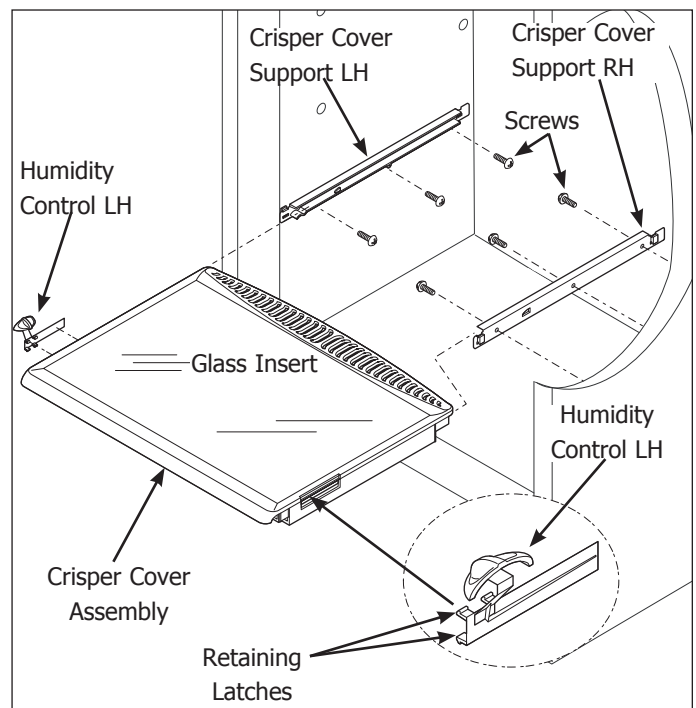

Figure 5-13. Crisper Cover Assembly Removal
2. Reach under the crisper cover and lift up on the crisper cover glass insert. Remove glass insert from unit. (See Figure 5-13)